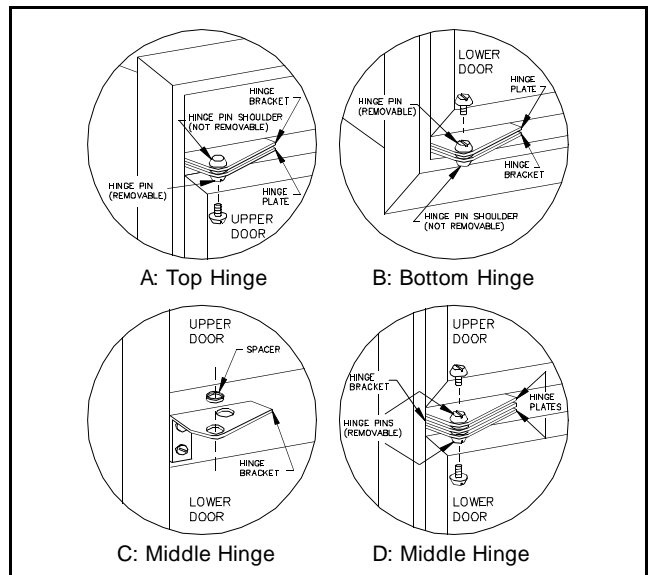

Figure 13
2. Remove the top hinge pin using one of the slotted screwdrivers. Remove the center hinge pin (both pieces) using the two slotted screwdrivers; one on each end of the pin. Lastly, remove the bottom hinge pin. Be sure to save the pins for reassembly later. (See Figure 13)